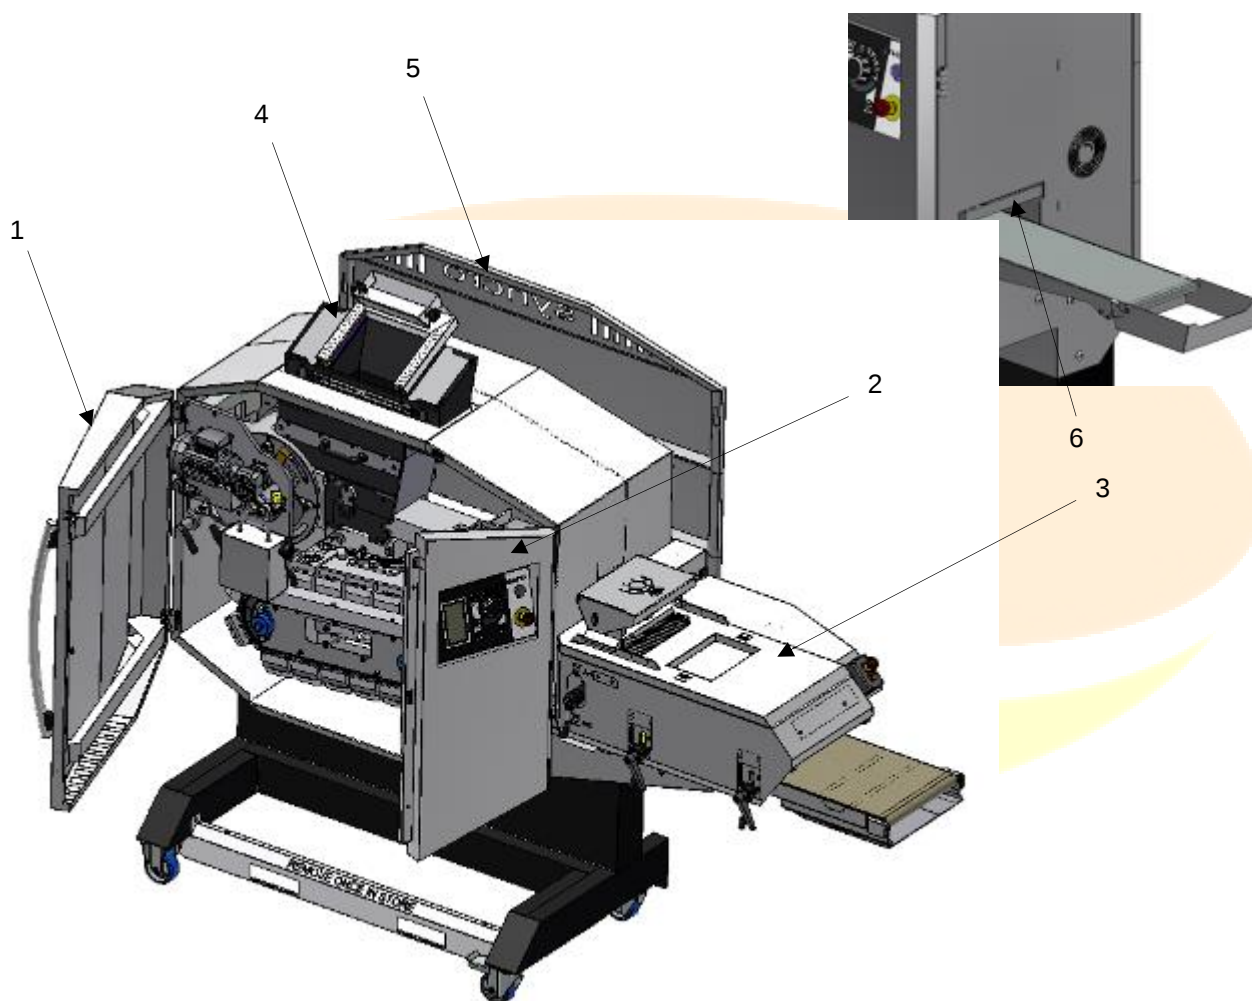

Figure 13 - Interlocked mobile guards and AOPD device
1. **At the beginning of each working day and / or shift** check that the guards, whether fixed (blocked with screws, wrenches, etc.) or interlocked and removable (associated with safety devices) or other safety devices as illustrated in par. 5.2.2, are intact, well locked (fixed guards) and the safety devices are efficient, by following the instructions in par. 5.2.3. In particular, refer to the image in **Figure 13** to identify the interlocked movable guards fitted on the machine.